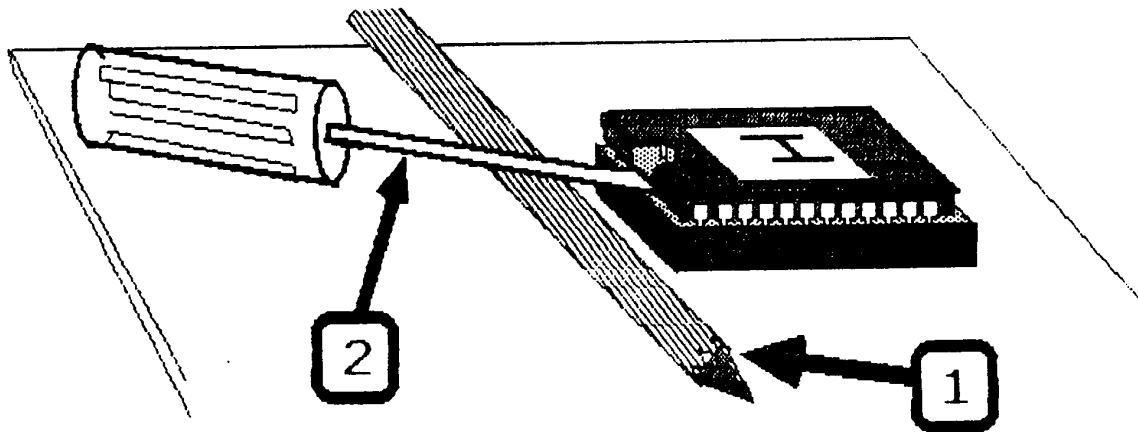

FIGURE 9
- a) Lay a pencil across the CPU board directly in front the ROM (see Figure 9, #1).
- b) Lay a small to medium flatblade screwdriver over the pencil, and between the ROM and its socket (see Figure 9, #2).